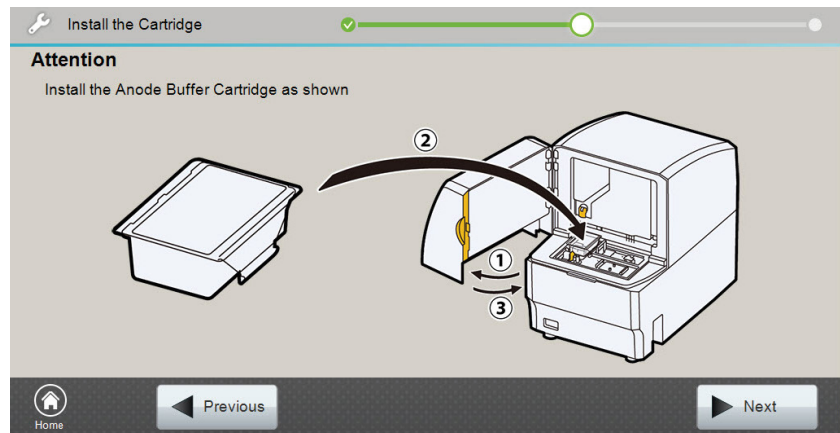

Figure 18. 'Install the Anode Buffer Cartridge' screen.
- When the 'Install the Anode Buffer Cartridge' screen appears (Figure 18), open the front door of the instrument.